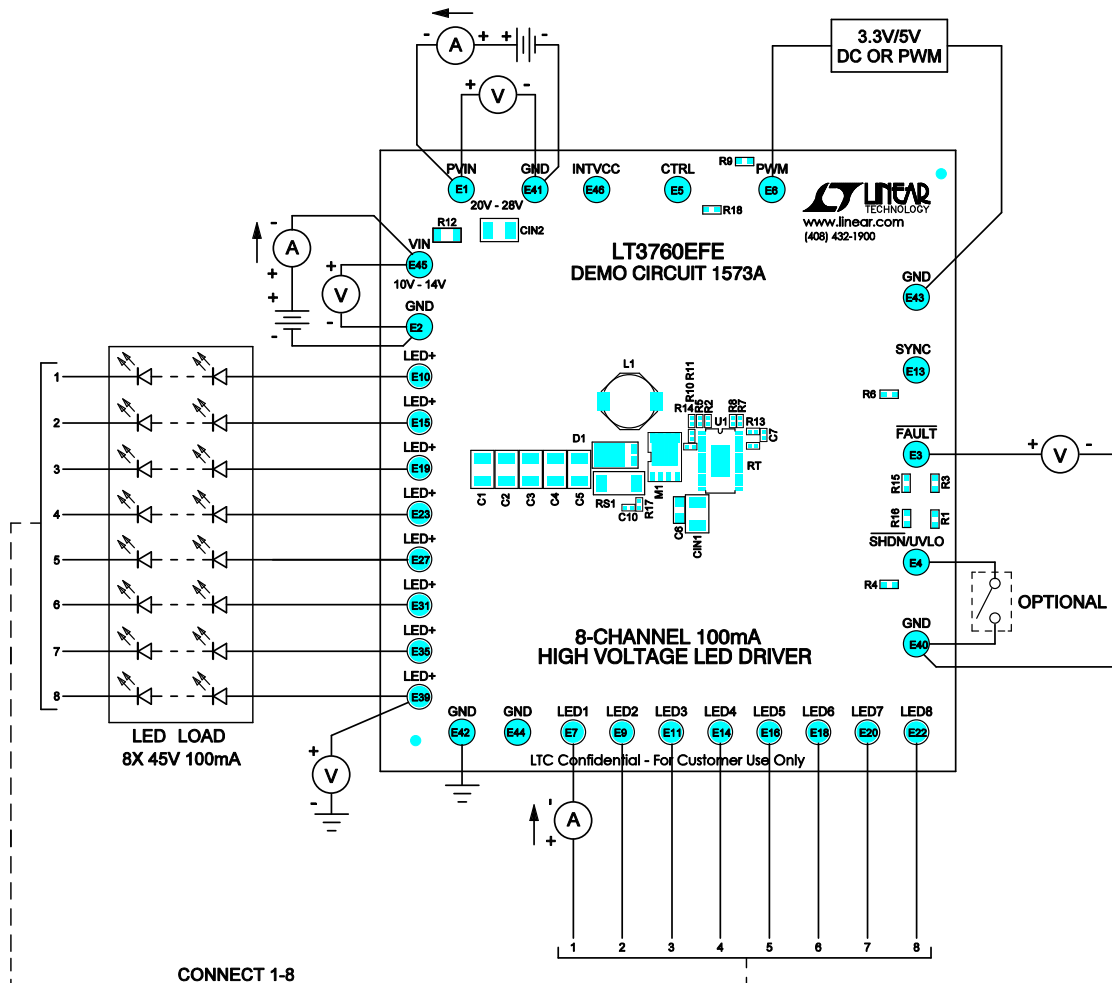

Figure 1. Proper Measurement Setup Drawing
1. Connect strings of LEDs with forward voltage less than 45V, but greater than the  $PV_{IN}$  voltage, to the LED+ and LED1-8 terminals on the PCB as shown in Figure 1. Tie any unused LED1-8 pins directly to  $V_{OUT}$  (LED+) before power-up to disable that channel.